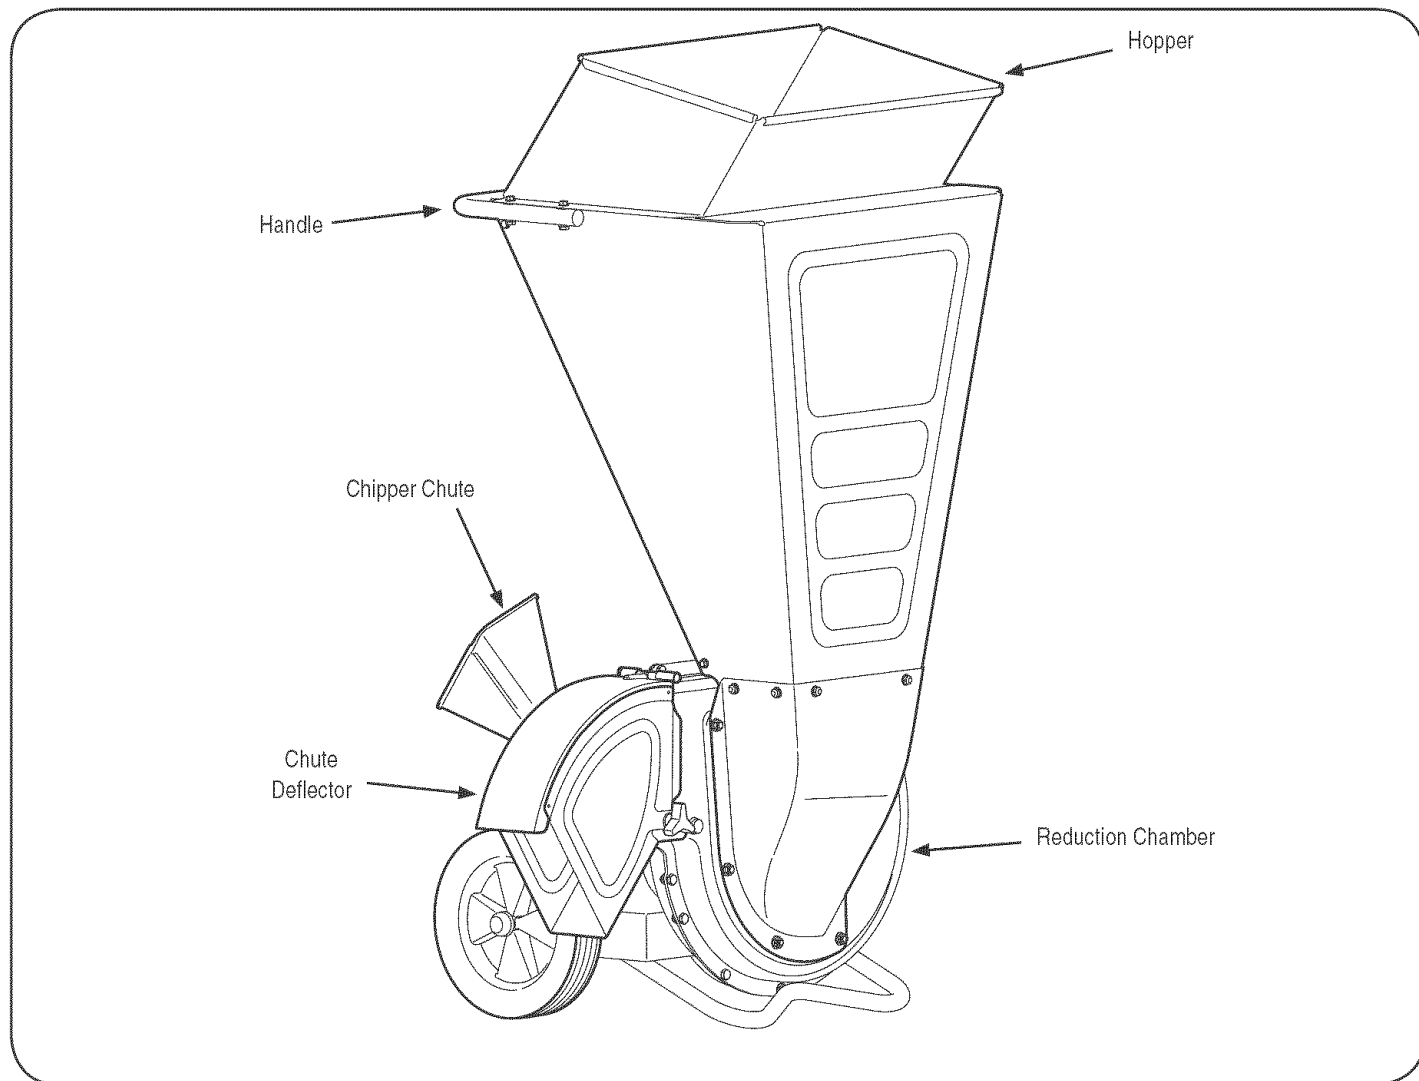

Figure 2
3. Empty the bag and reattach to the chute deflector opening. Refer to Figure 2.